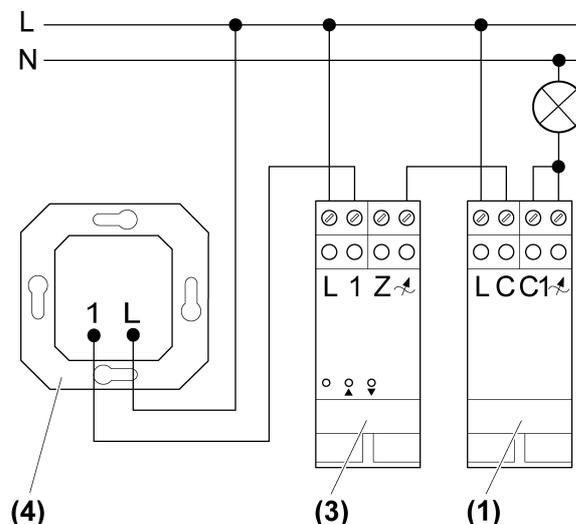
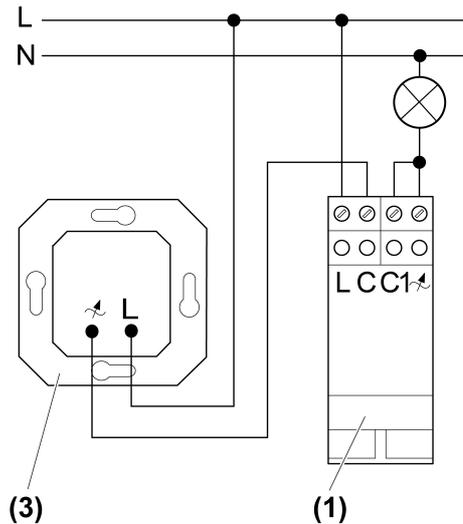
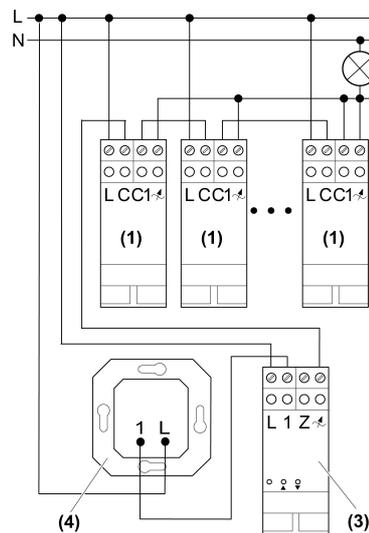

Figure 2: Connection diagram with RMD dimmer
Figure 3: Connection diagram with FM dimmer
Figure 4: Connection diagram with multiple power boosters
- Connect the power booster according to the connection diagram, connection diagram with RMD dimmer (Figure 2), connection diagram with FM dimmer (Figure 3) or connection diagram with multiple power boosters (Figure 4).